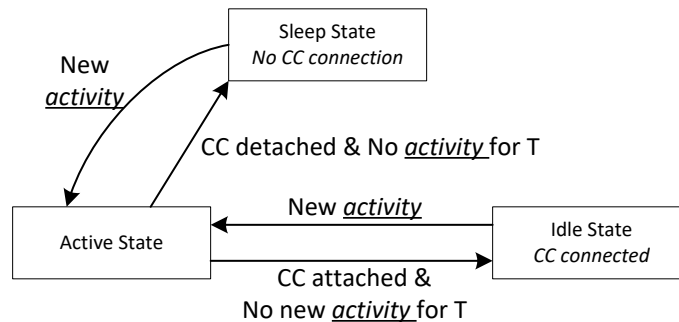

図 8-33. Flow Diagram for Power States
- (1) See 表 8-5 to see the exact meaning of I²C Address Index.
(2) See 表 8-2 for how to configure a given ADCINx decoded value.
The TPS25751 can operate in one of three different power states: Active, Idle, or Sleep. The Modern Standby mode is a special case of the Idle mode. The functionality available in each state is summarized in 表 8-7. The device automatically transitions between the three power states based on the circuits that are active and required. See 図 8-33. In the Sleep state, the TPS25751 detects a Type-C connection. Transitioning between the Active mode to Idle mode requires a period of time (T) without any of the following activity: